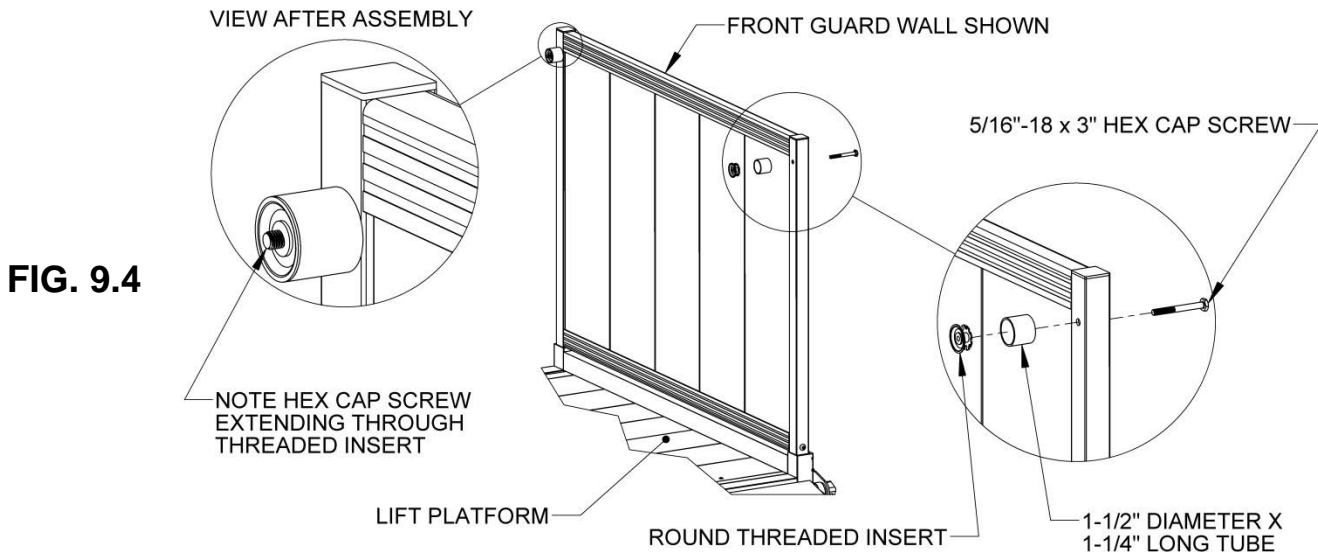

FIG. 9.4
3. Hold one $1\text{-}\frac{1}{2}$ " diameter x $1\text{-}\frac{1}{4}$ " long tube with the threaded insert to the inside of the guard wall (the tube will be oriented toward the guard wall post and the insert will be oriented toward the other guard wall). Install a $\frac{5}{16}$ "-18 x 3" long hex cap screw through the hole you previously drilled and into the threaded insert and tighten securely. Refer to FIG. 9.4 for the correct orientation. Repeat for the other guard wall post.
5. Install the elbow halves with the threaded holes onto the portion of the 5/16"-18 x 3" long hex cap screw which extends past the threaded inserts (shown in FIG. 9.4) and tighten securely. After tightening, the rounded side of the elbow halves should be on the bottom facing the platform. It may be necessary to loosen the hex cap screws holding the round tubes with the threaded inserts and rotate in one direction or the other then re-tighten to get the elbows to end up in the correct orientation when fully secured (FIG. 9.6).